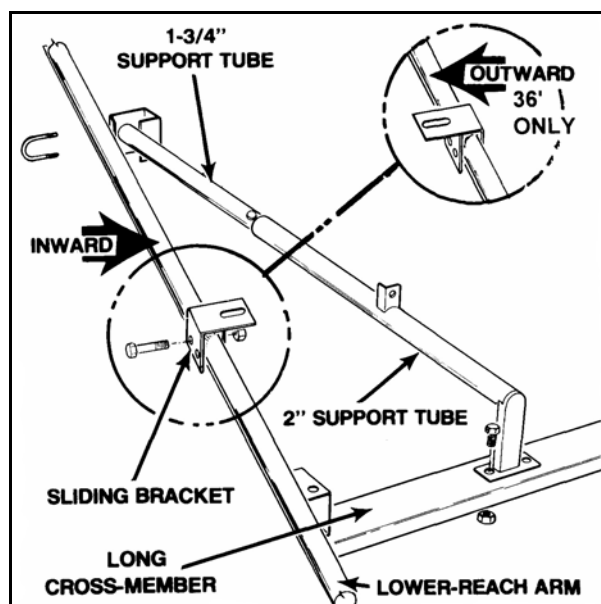

Figure 3.18
2. Fasten the 1-3/4" tube to the right lower reach arm with one u-bolt (Figure 3.18).
- ➡ 3. **41', 46', and 51' augers:** Place sliding bracket on lower reach arm with the tab facing into the auger as shown in Figure 3.18. Fasten with two 7/16" x 3-1/2" bolts and locknuts.
- ➡ 4. The sliding bracket for the **36' auger** is mounted with tab facing outward from the auger (Figure 3.18). Fasten with two 7/16" x 3" bolts and locknuts.